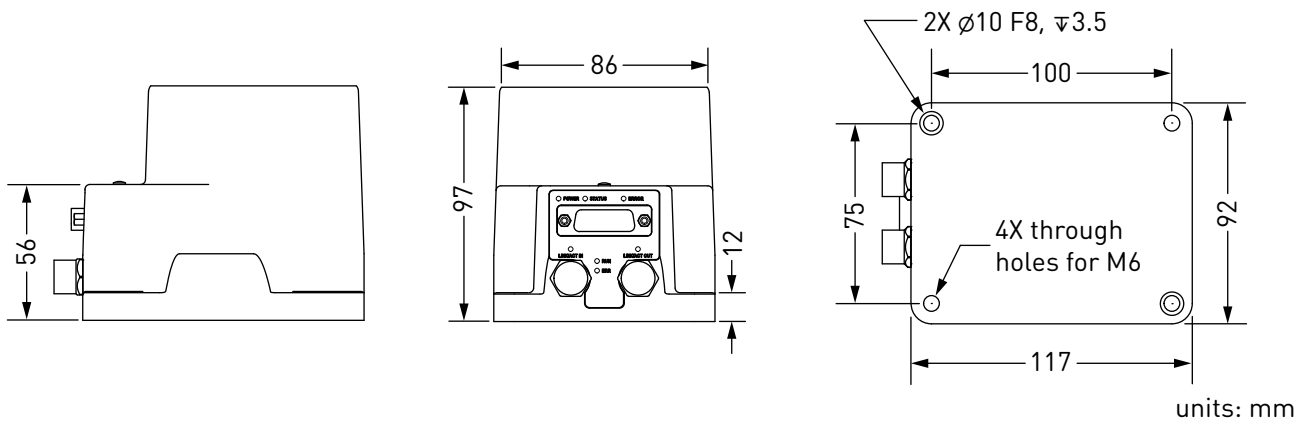
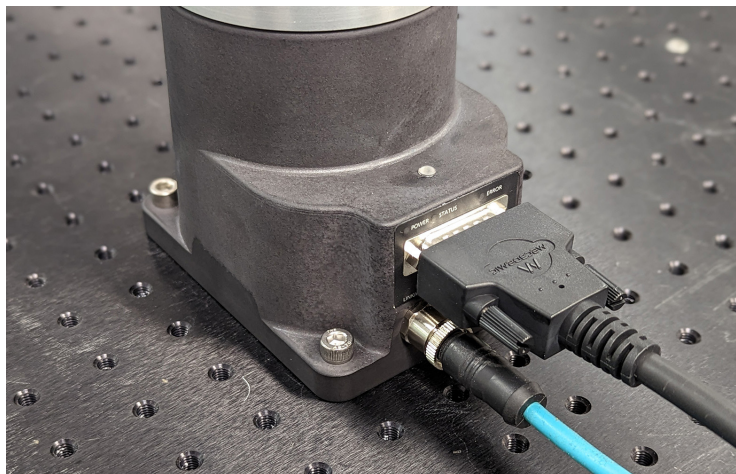

Figure 11: Dimensions of the base of the MCS500
Figure 12: The robot base installed, with the connectors attached
The dimensions of the base are shown in Figure 11 and an example of an installation is shown in Figure 12. Note that you can also install the robot base upside-down. The robot will automatically detect angle between the base and the gravity vector (no need to manually specify this angle). Also, note that you can mount the robot's base on a mobile body (e.g., on the carriage of a linear guide), but care must be taken to ensure that the combined acceleration of the robot and the linear guide won't exceed the capacity of the robot in case an emergency deceleration is required.
1. Attach the circular connector of the Ethernet cable to the ETHERNET1 port on the robot's base and connect the RJ-45 jack to your computer or router (Figure 12). The two Ethernet ports on the robot's base act as a bridge, so you can daisy-chain several MCS500 robots, or connect an Ethernet I/O module on the ETHERNET2 port.
2. Use the DC power cable provided to connect the unpowered power supply to the robot's DC power connector (Figure 12). Make sure the connectors are completely screwed, or else you may damage the robot. Then, connect the power supply to your country-specific AC power cord (not provided). Only then, you can connect the AC power cord to an AC outlet, and switch the power supply on using its on/off button.